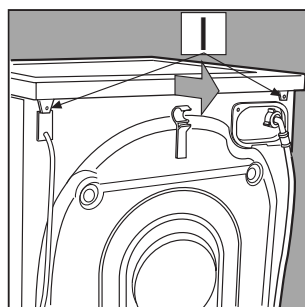

Fig. 3
**2. Remove the covering lid** by unscrewing the two screws **I**, and then pull it towards you [fig. 3].